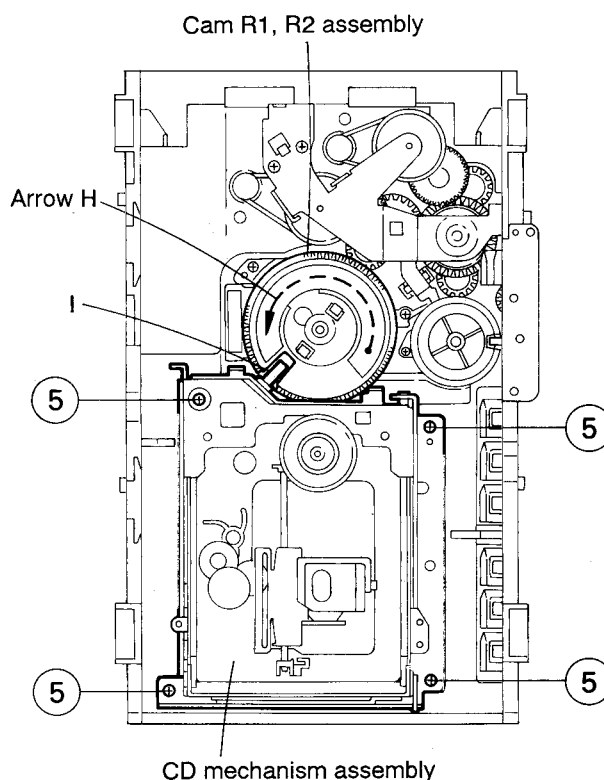

Fig. 5-25
■ Removing the CD mechanism assembly (See Fig. 5-25)
1. While turning the cams R1 and R2 assembly in the arrow direction (I), align the shaft (J) of the CD mechanism assembly to the position shown in Fig. 5-25.
2. Remove the four screws (5) retaining the CD mechanism assembly (See Fig. 5-25).